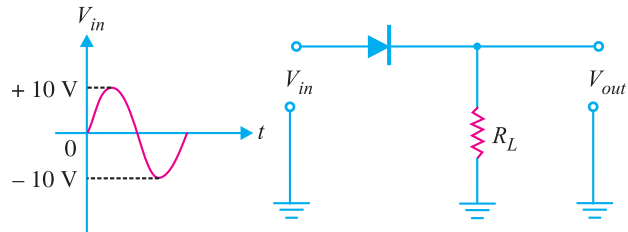

Fig. 18.67
2. In the negative series clipper shown in Fig. 18.67, what is the peak output voltage ? [9.3 V]